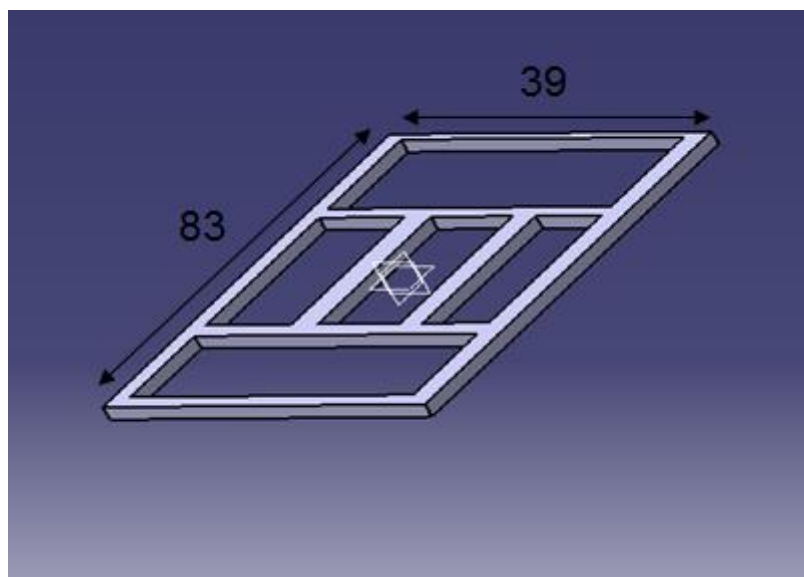

Figure 3.1:Metal Frame
1. metal frame: uses to install plastic (**Figure 3.1**)